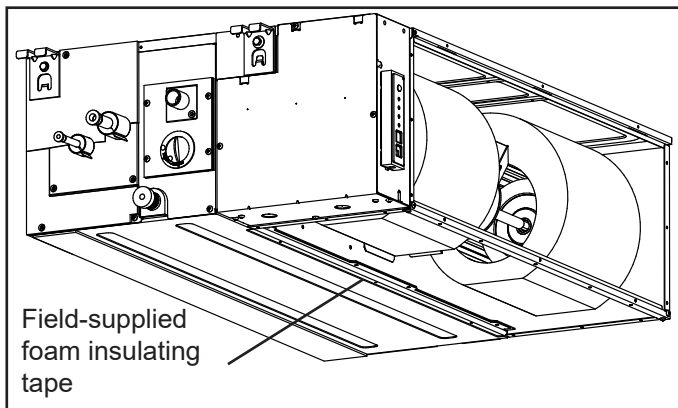

Figure 11. Apply Foam Insulating Tape
4. Apply field-supplied foam insulating tape to the return air opening on the bottom of the unit. See Figure 11.